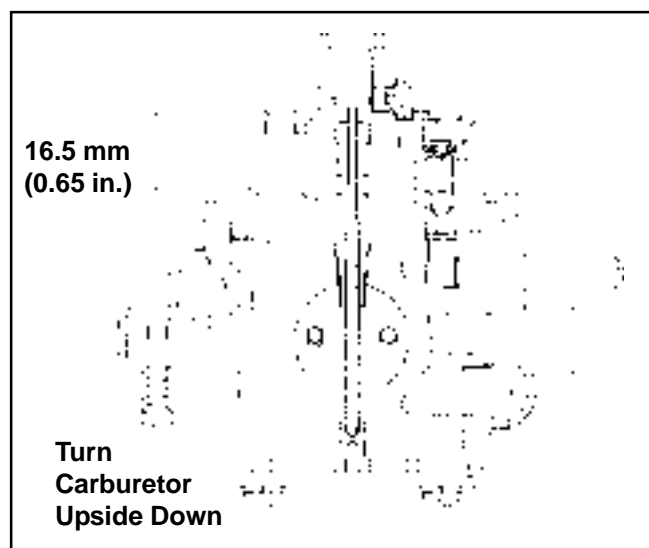

Figure 5-5. Proper Float Level.
6. Turn the carburetor upside down and check the level of the float, as shown in Figure 5-5. With the float needle valve fully seated, 16.5 mm (.65 in.) should be measured from the body to the float as indicated. Don't attempt to adjust by bending the tab. Install a new float if level is wrong.